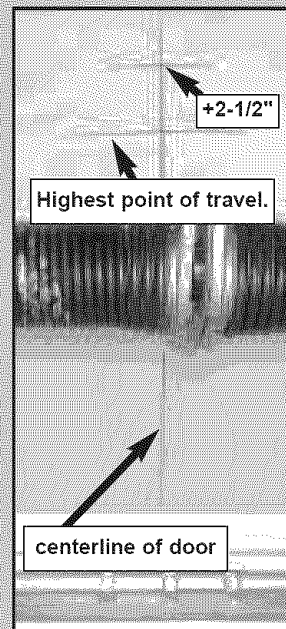

Fig. 2-3
- Mark “highest point of travel” at centerline on wall above door. **Fig. 2-3.**
add 2-1/2 inches to “highest point of travel” and mark this height on centerline. **Fig. 2-3.**